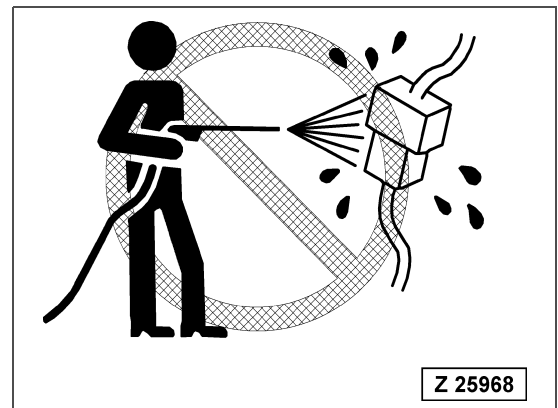

Fig. 3-3
- If water gets into the electrical system (Fig. 3-3), there is a hazard that it will cause malfunctions or a misoperation. If there is any misoperation, there is a danger that the machine may move unexpectedly and cause serious personal injury or death. When washing the machine with water or steam, do not allow the water or steam to come into direct contact with electrical components.